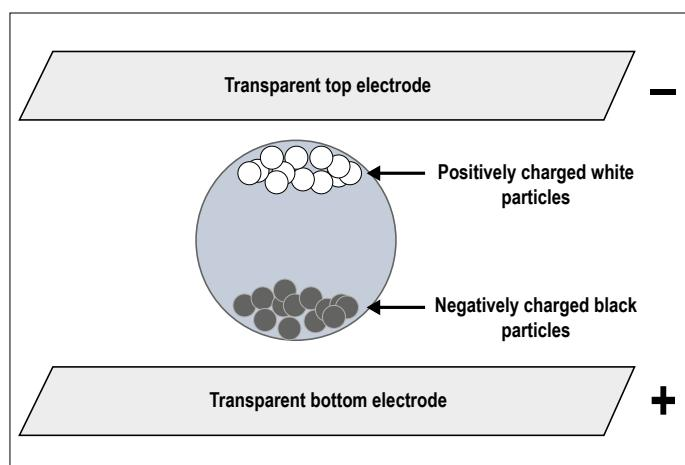

Fig. 1. E-Paper pixel construction.
**A** E-paper or E-ink displays first came to public attention when the Amazon Kindle e-reader device was introduced about 10 years ago. This type of 'electronic paper' display uses very little energy and is well-suited to applications where the displayed images are static for long periods such as occurs with e-reader devices. The display area is made up of a layer of tiny fluid-filled capsules (**Figure 1**) containing coloured particles. When a positive or negative electric field is applied to an individual electrode, the coloured particles with the corresponding charge will move either to the top or bottom of a capsule, making the surface of the e-paper display appear a certain colour. Particles now remain in this position and display the static image without requiring any more power, i.e. they have bistable properties.